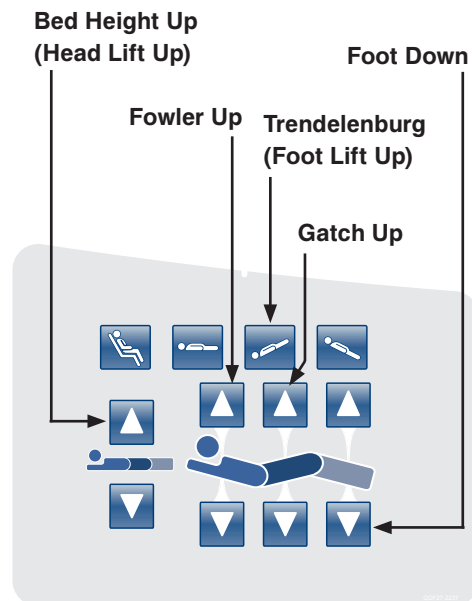

Figure 24: Calibration Complete
26. Place the bed at the highest height by pressing simultaneously the **Trendelenburg (Foot Lift Up)** button and **Bed Height Up (Head Lift Up)** button (see Figure 24).
27. Place the Fowler and Gatch section of the bed at the highest height by first pressing the **Fowler Up** button then the **Gatch Up** button (See Figure 24).
28. Place the foot at the lowest position by pushing the **Foot Down** button until limit is met (see Figure 24) . **CAUTION: The Gatch must be raised to the highest height prior to running the Foot Down or damage could occur.**